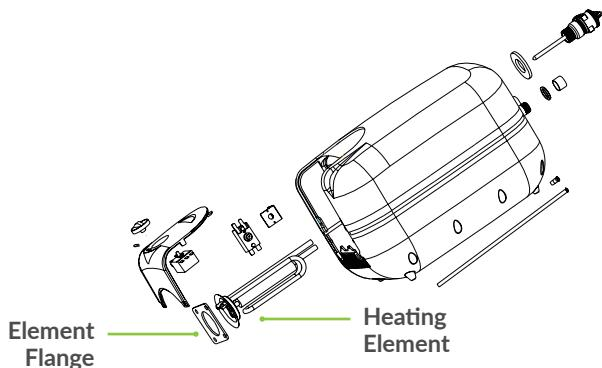

FIGURE 10.
3. Remove the two screws from the mounting bracket; see Figure 10, being careful not to drop the screws into the unit, as they will be difficult to retrieve. Remove bracket and set screws aside.
15. Replace the mounting bracket with the center rise facing outward and the screw hole up, see Figure 10.